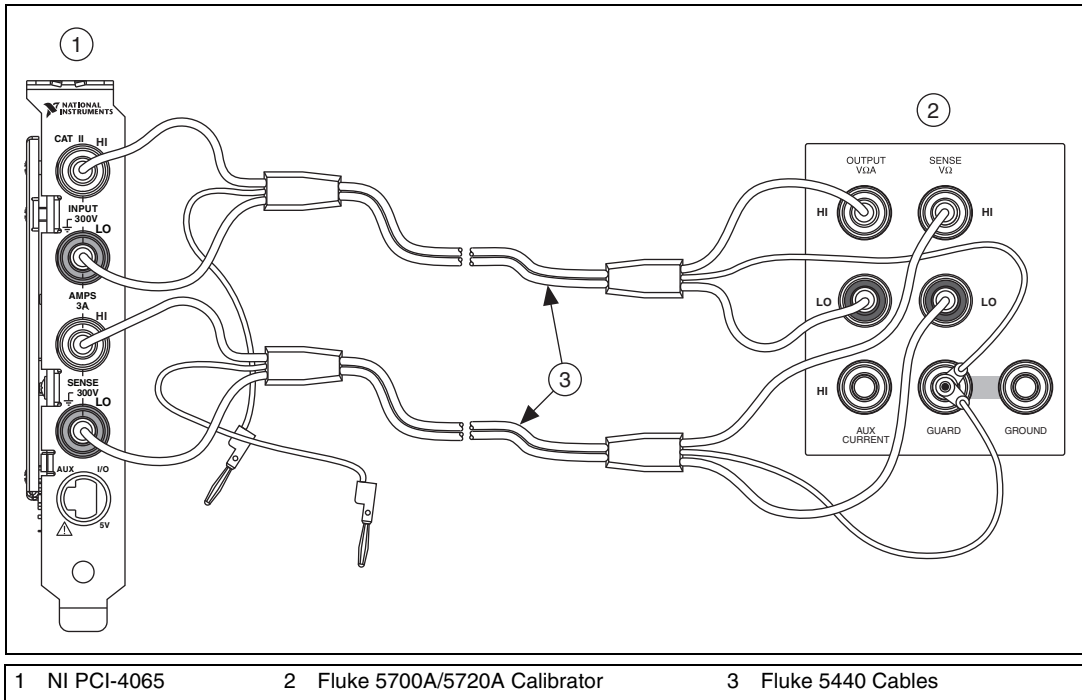
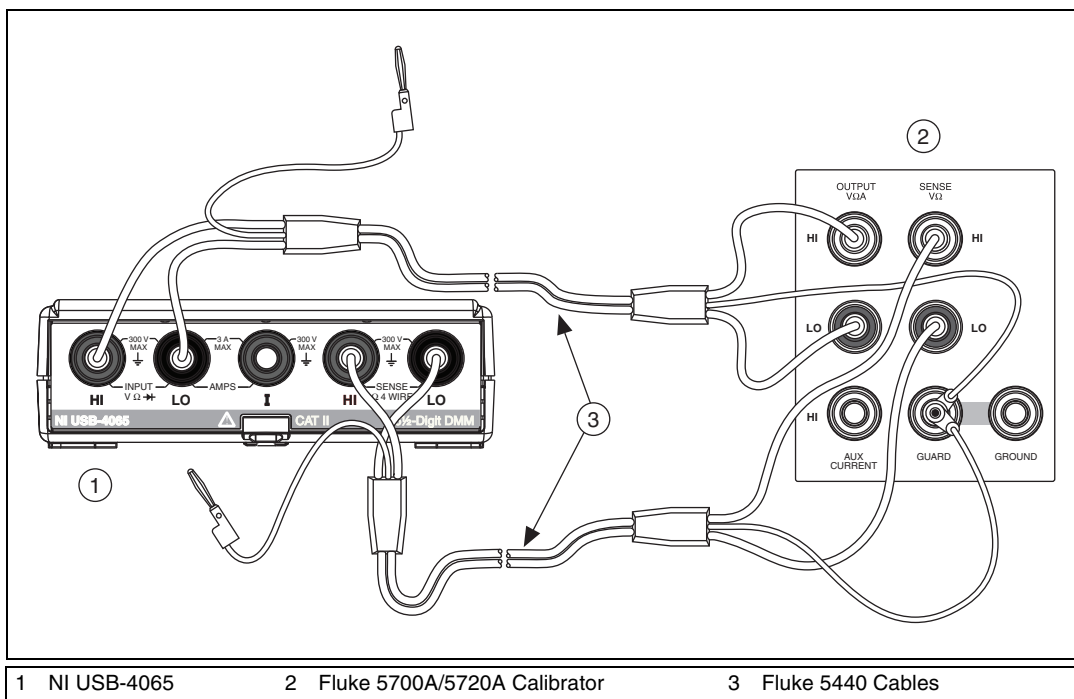

Figure 3. NI PXI/PCI/PCIe-4065 Cable Connections for 4-Wire Resistance
Figure 4. NI USB-4065 Cable Connections for 4-Wire Resistance
2. Connect the NI 4065 and the Fluke 5700A/5720A calibrator using the Fluke 5440 cables, as shown in Figure 3 for the NI PXI/PCI/PCIe-4065 and Figure 4 for the NI USB-4065. Table 7 lists the cable connections.